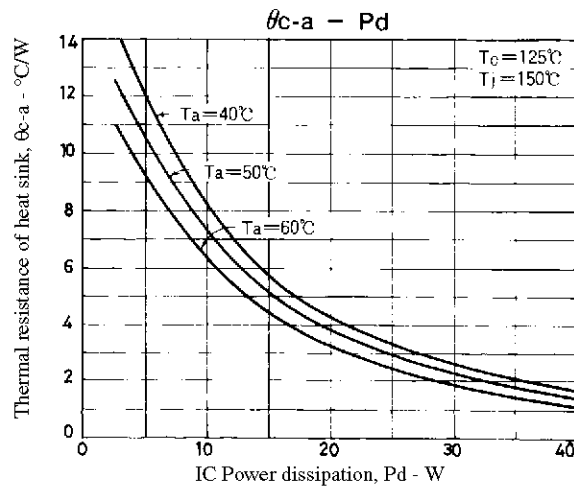

Figure 3. STK4028V θc-a - Pd
Figure 3 shows the relation between Pd and θc-a given from (1) and (3) with Ta as a parameter.
The thermal resistance of a heat sink is obtained from Figure 3.